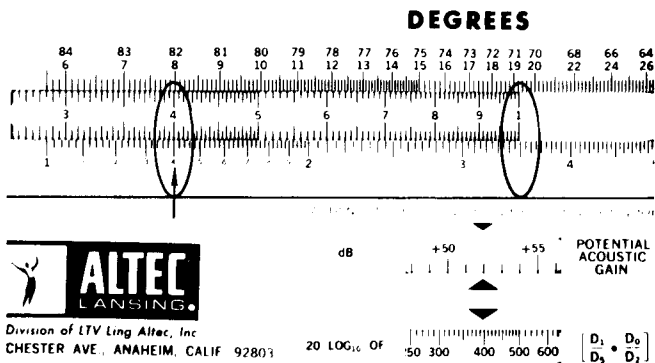

Figure 10
1. Using Side Two of the calculator, place 1 on the "C" scale over the D_1 distance on the "D" scale. Find the D_0 distance on the "C" scale and record the figure that appears directly below it on the "D" scale. For example, $D_1 = 35'$, $D_0 = 40'$, number = 1400. (see Figure 10).